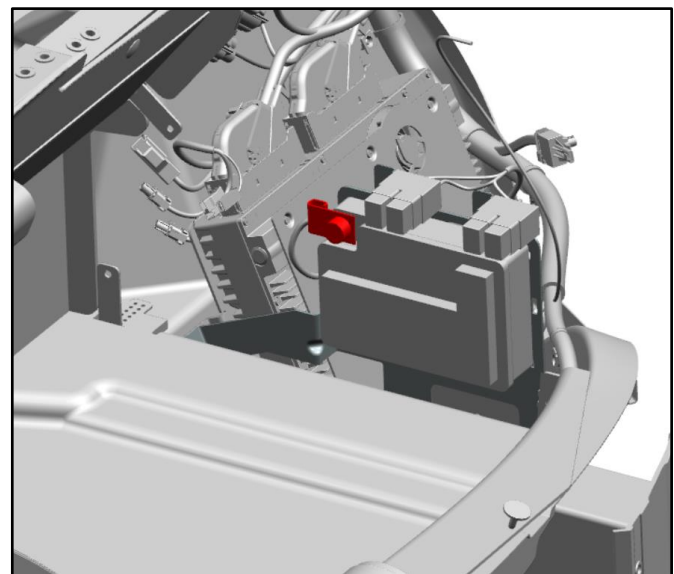

Figure 6
12. Remove the insulation cap and the nut that attaches the main power cable to the fuse box. (Refer to Figure 6.)